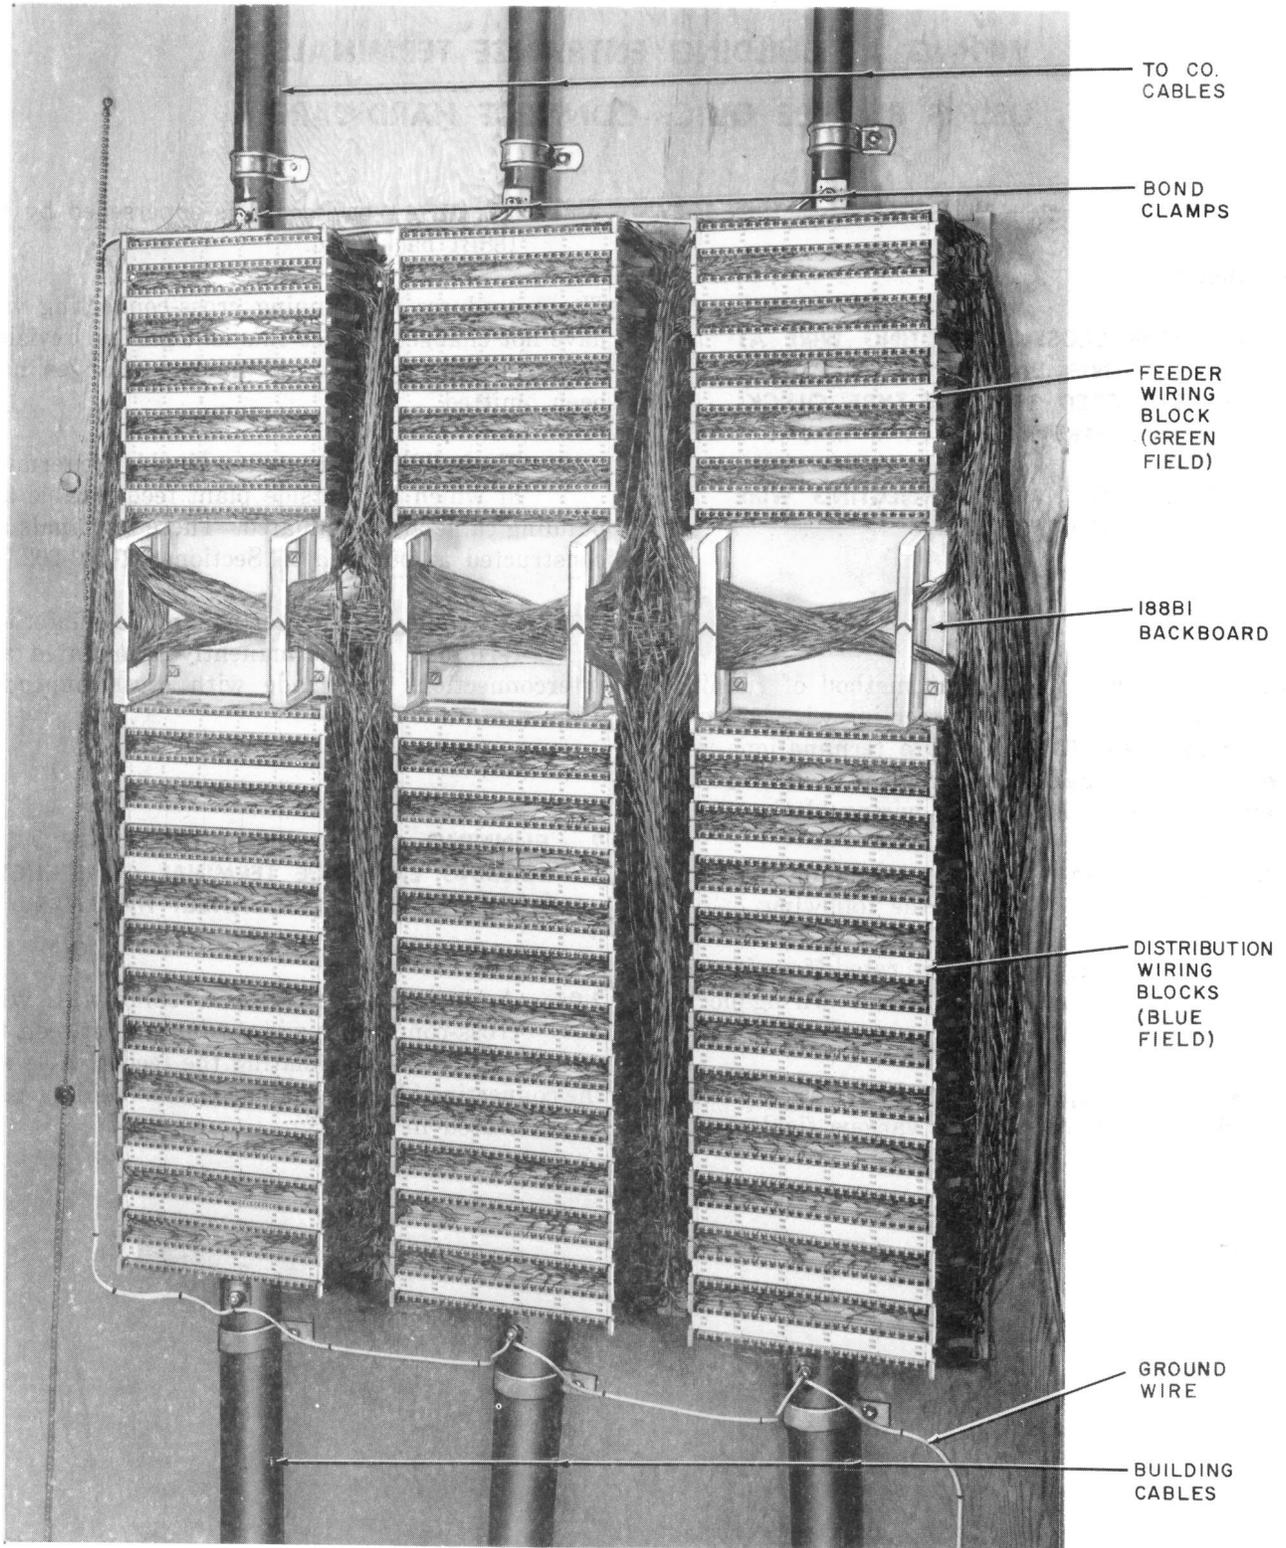

Fig. 1—Main Terminal—900-Pair Entrance Cable—1800-Pair Building Cable
2.01 A building entrance terminal with cross-connecting wires running between the connecting blocks terminating the feeder cable and the connecting blocks terminating the building cable is illustrated in Fig. 1.